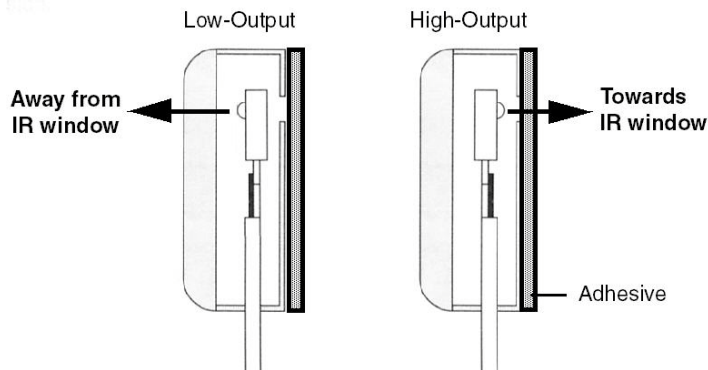

FIG. 1 Low-Output and High-Output sides
One black adhesive backed IR window shield (FIG. 3) is included. With this shield (surrounding the internal emitter), you can restrict IR reception through the device’s control window by blocking any interference or IR signals produced by sources other than the internal emitter. Without this shield, any incoming IR signal can pass through to the IR control window and overlap signals sent via the emitter (FIG. 1).
This method allows IR signals generated from hand-held remotes to easily pass through the opaque red shell/cover. The internal IR LED can be oriented to either face towards or away from the shell (FIG. 1), depending on its output configuration.
3. Remove the adhesive backing from the IR shield and carefully place the IR LED into the recessed area using the correct orientation (FIG. 1). Make sure the wires attached to the IR LED are not shorted together.